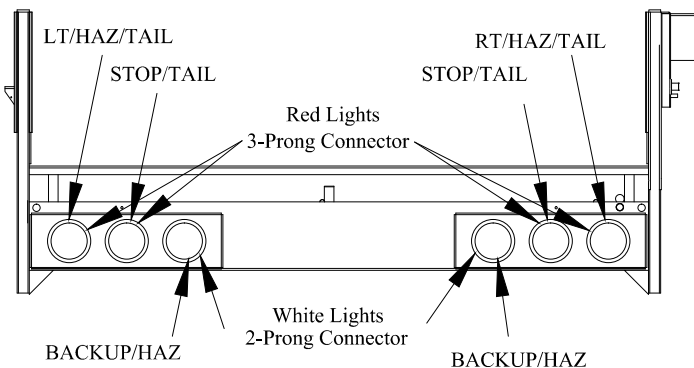

Figure 13: Installed 3-light kit (T-54).
2. Pull harness plugs through the inserted light grommets, matching the proper tail light configuration (Figure 13 or 14).